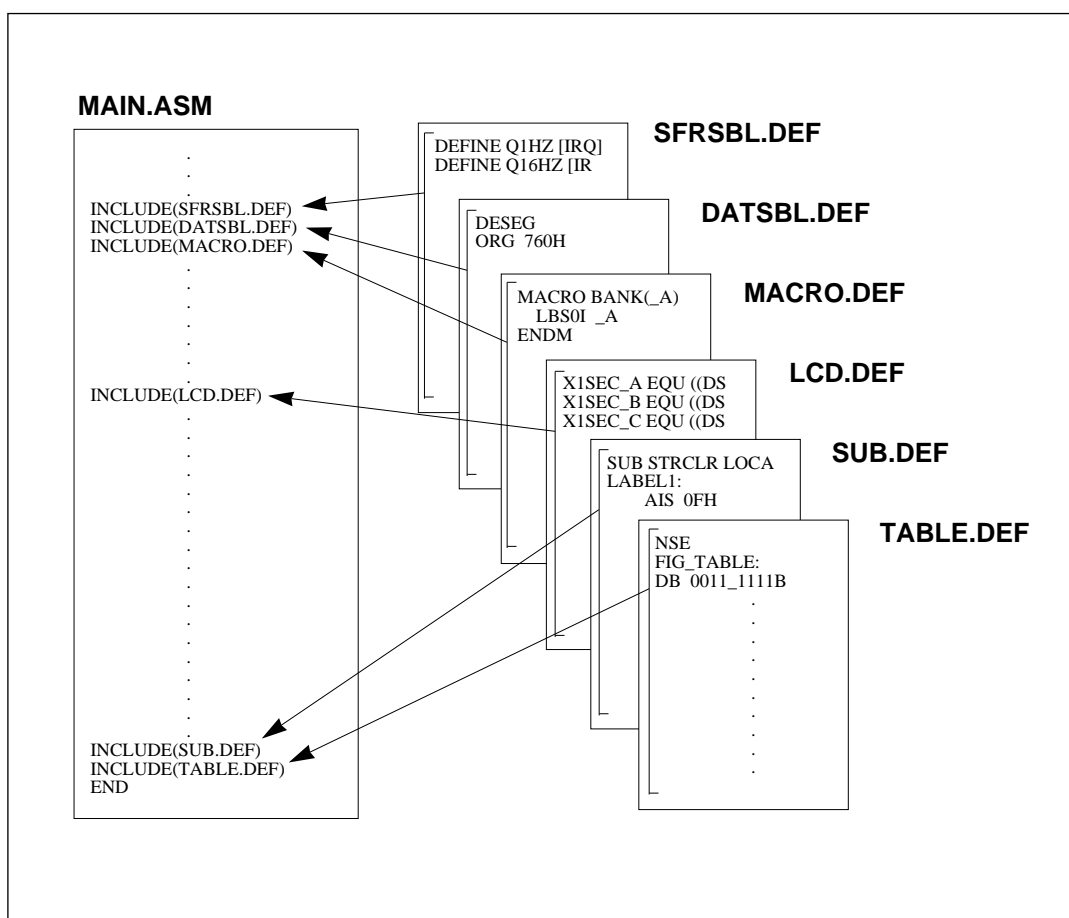

Figure 10-4 Program File Configuration
- (1) MAIN.ASM
- (2) SFRSBL.DEF
- (3) DATSBL.DEF
- (4) MACRO.DEF
- (5) LCD.DEF
- (6) SUB.DEF
- (7) TABLE.DEF
Files (2) to (7) are all included in MAIN.ASM (Figure 10-4).